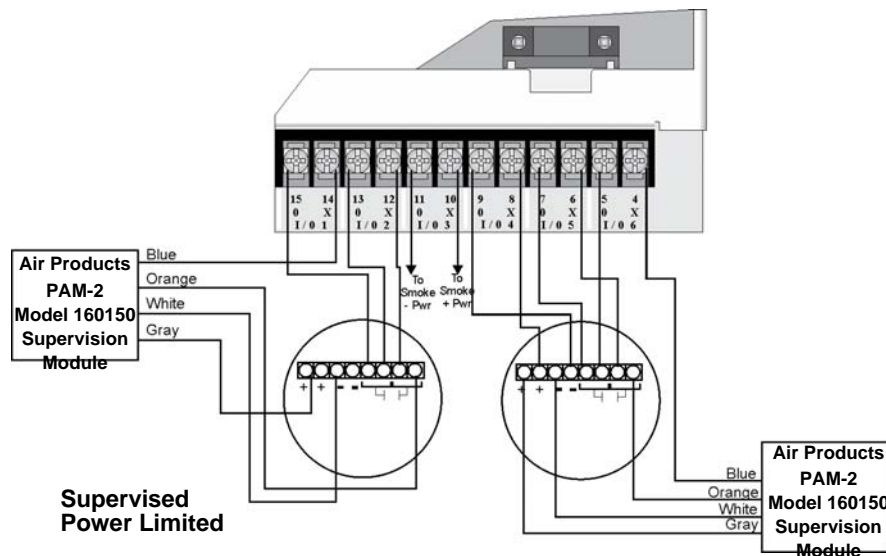

Figure 4-37 Class A 4-Wire Smoke Detector Connections
Figure 4-37 illustrates how to install a 4-wire Class A detectors.
- Smoke power is supplied to each Class A loop as shown in Figure 4-37.
*Note: In programming any point that uses multiple Flexput circuits are always referred to as the lowest Flexput circuit number used. For example, Figure 4-37 uses Flexput circuits 1, 2, 3 together and 4, 5, 6 together. In programming (1, 2, 3) would be referred to as point 1, and (4, 5, 6) would be referred to as point 4.*